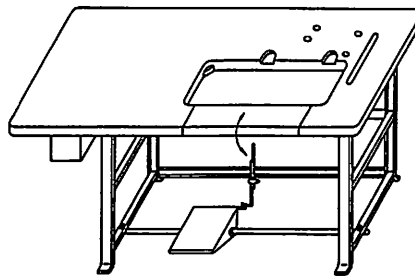

Fig. 3
B. Open type table (Fig.3)
Figure 3 represents a sewing type table so as to threading without tilting machine head.